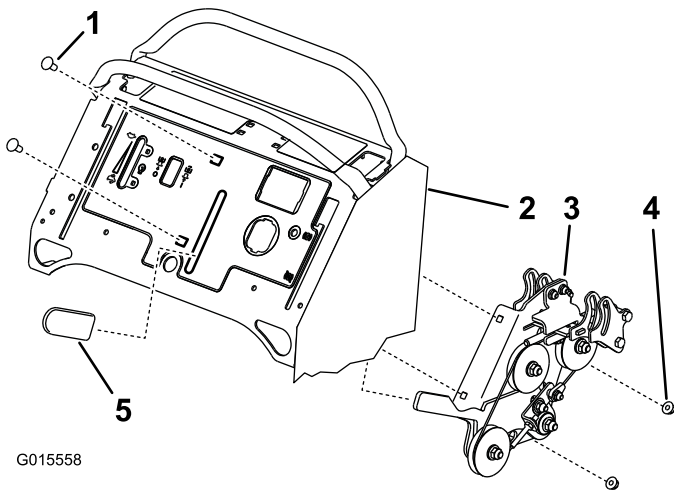

Figure 11
3. Place the speed control assembly into the tower and fasten it to the tower with 2 carriage bolts (5/16 x 1 inch) and 2 flange nut (5/16 inch) (Figure 11).
4. Install the rubber grip onto the speed control lever (Figure 11).